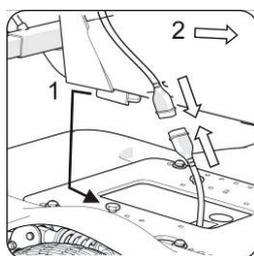

Figure 5-147
- 5.3.16.2 Ensure the bolt on the chassis to slide into the slot under the seat (1). (Figure 5-147)
- 5.3.16.5 Connect the controller connector under the seat (2).( Figure 5-147)